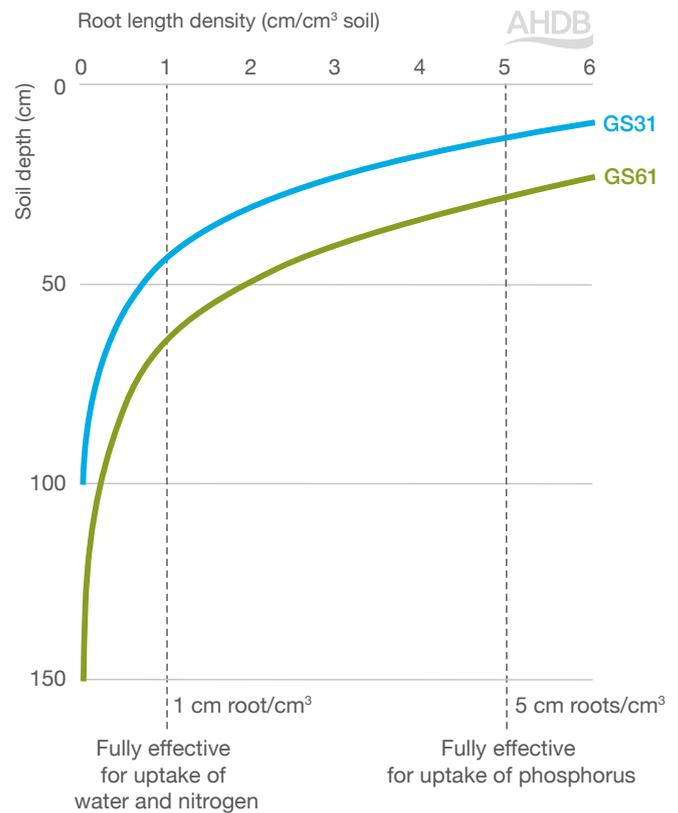

Figure 13. Roots fully utilise water and nitrogen to about 40 cm depth at GS31 and to 70 cm depth by GS61
High rates of uptake of less mobile nutrients, such as phosphorus (P), only occur when root length densities (RLDs) exceed 5 cm/cm3 of soil. Lower root length densities are adequate for potassium (K) uptake and about 1 cm/cm3 is needed for the take-up of most of the available water and water-soluble nutrients, such as nitrogen. Lower RLDs will take up less of the available water and nutrients, this is shown in Figure 13.